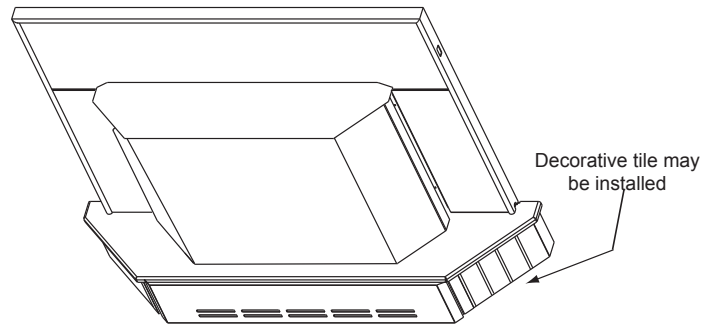

Figure 21.3
**NOTE:** 3/8" ( 9.5mm) thick tile or like material can be cut to size and fit under lip of top trim edge for a decorative touch (**Figure 21.3**).